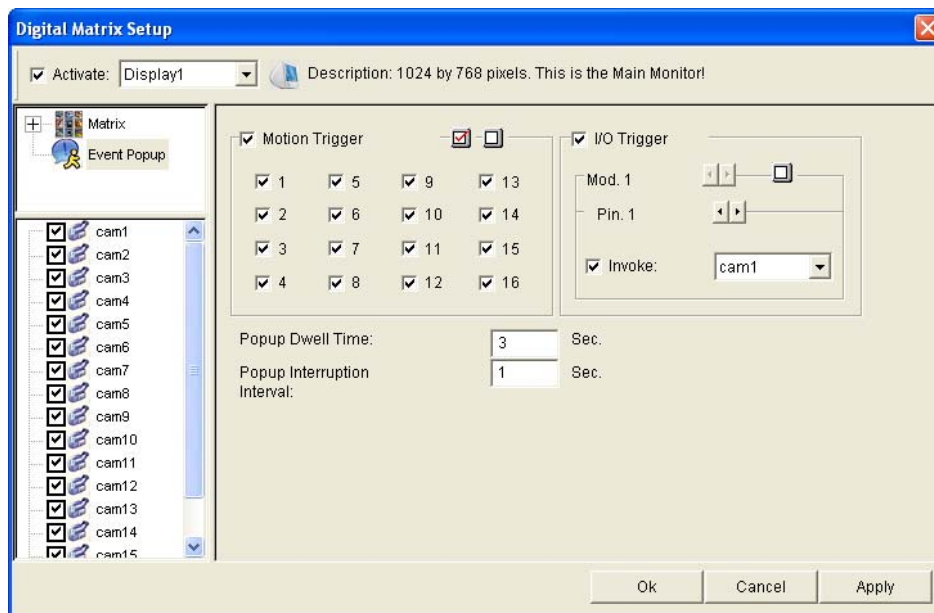

Figure 3-44
2. To configure pop-up alert, in the upper left column, click **Event Popup**. Figure 3-44 appears.